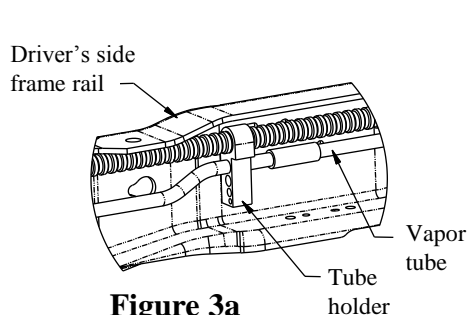
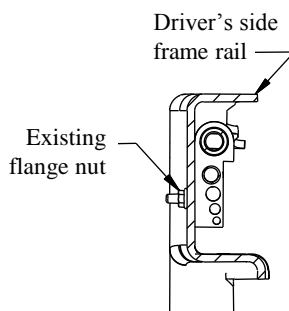
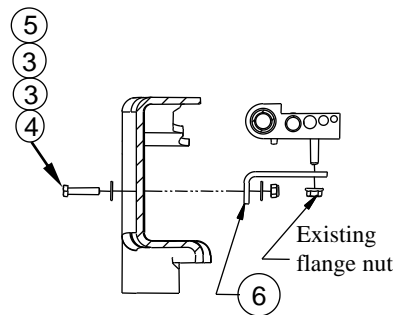

Figure 3a
Figure 3b
Figure 3c
2. **On 2005 to 2010 Gas Engine Vehicles Only.** The vapor tube running along the inside of the driver's side frame rail must be relocated prior to installing the driver's side bracket. See Figure 3a. Remove the flange nut from the outside of the frame and keep for later use. See Figure 3b. Rotate the tubes up and out of the way. Install the L-bracket (6) with 1/4" hardware (3)(4)(5), as shown in Figure 3c. Tighten the L-bracket (6) to the frame, but leave the tube holder loose to aid bracket installation.
14. **On 2005 to 2010 Gas Engine Vehicles Only.** Use the factory flange nut that was removed in Step 2 to tighten the tube holder onto the L-bracket (7) as shown in Figure 3c.